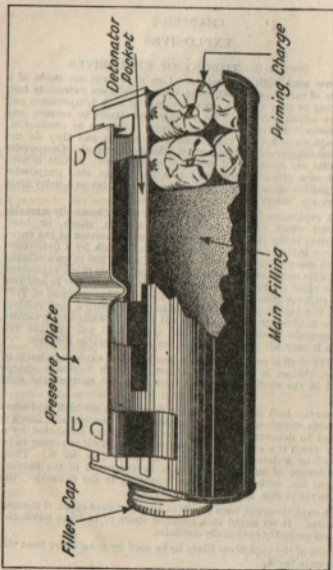

Fig 1. 75 grenade Mark 1, sectional view
1. No. 75 grenade (See Fig 1)
(a) *Description*.—This is a screw cap metal container filled with $1\frac{1}{2}$ lb of HE with a special primer inside the container at the opposite end to the screw cap (see Fig 1). On top of the container is a pressure plate with special pockets underneath for the detonator and igniter sets used when the grenade is employed as an anti-tank mine (see Military Training Pamphlet 40, Part I). Twelve grenades are packed in a tin box with 24 detonator and igniter assemblies.